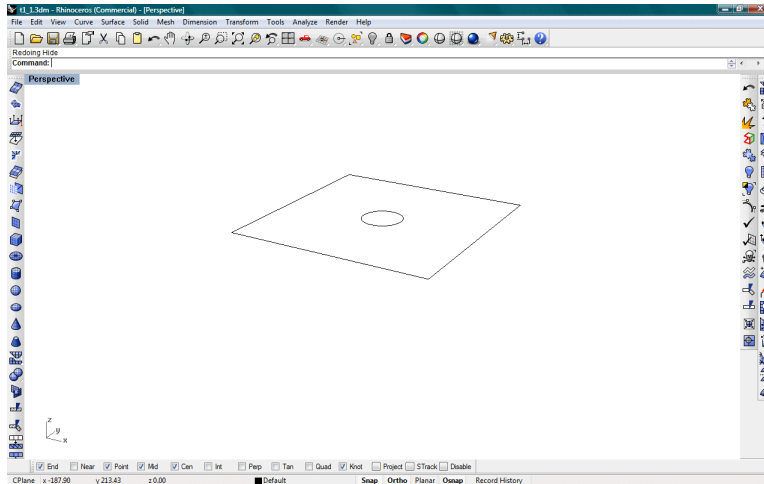

Figure 48: The highlighted square and circular curves represent the Naked Edges of the selected Polysurfaces.
26. Select the **Curve|Curve From Object|Duplicate Border** menu item. Click on the box and then on the cylindrical part of the model followed by **<ENTER>**. This operation extracted a square and a circular curve from the model. Hide the box and the cylinder to only see the two extracted curves shown in Figure 48.